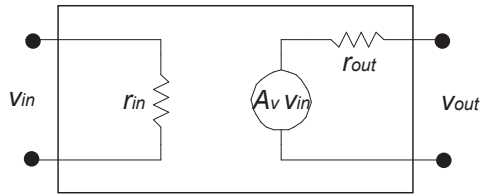

Figure 2: Equivalent Circuit for a Voltage Amplifier. This circuit *defines* A_V , r_{in} , and r_{out} .
6. **AC properties.** Three important parameters, defined by the coupled Thevenin equivalent circuits of the amplifier input and output shown in Fig. 2, determine the AC behavior of the amplifier. They are: